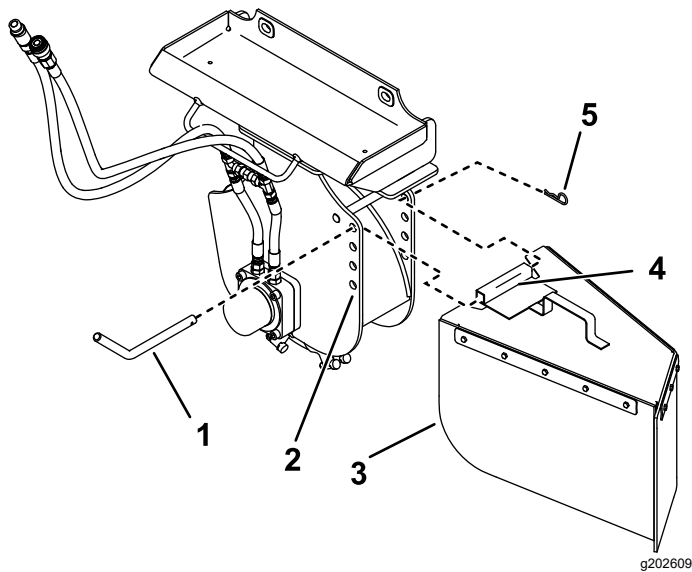

Figure 11
The stump grinder has 4 sets of mounting holes for positioning the chip guard (Figure 11). Move the guard up (upper holes) when you are grinding close to the ground and down (lower holes) when you are chipping tall stumps. Install the chip guard as follows:
1. Position the mounting tube on the guard between 2 holes on the grinder (Figure 11).
2. Slide the guard pin through the holes in the grinder and the mounting tube (Figure 11).
3. Secure the pin with a hairpin cotter (Figure 11).